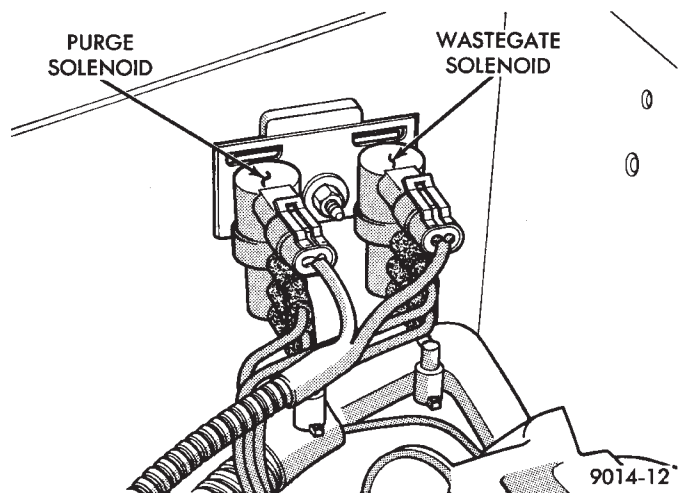

Fig. 14 Solenoid Mounting
- (1) Remove vacuum hoses from sensors (Fig. 14).
- (2) Disconnect electrical connector from solenoids (Fig. 14).
- (3) Remove solenoid pack mounting nut. Remove solenoid pack.
- (4) Depress tab on top of solenoid to be replaced and slide the solenoid downward out of mounting bracket.
- (5) Reverse above procedure to install.